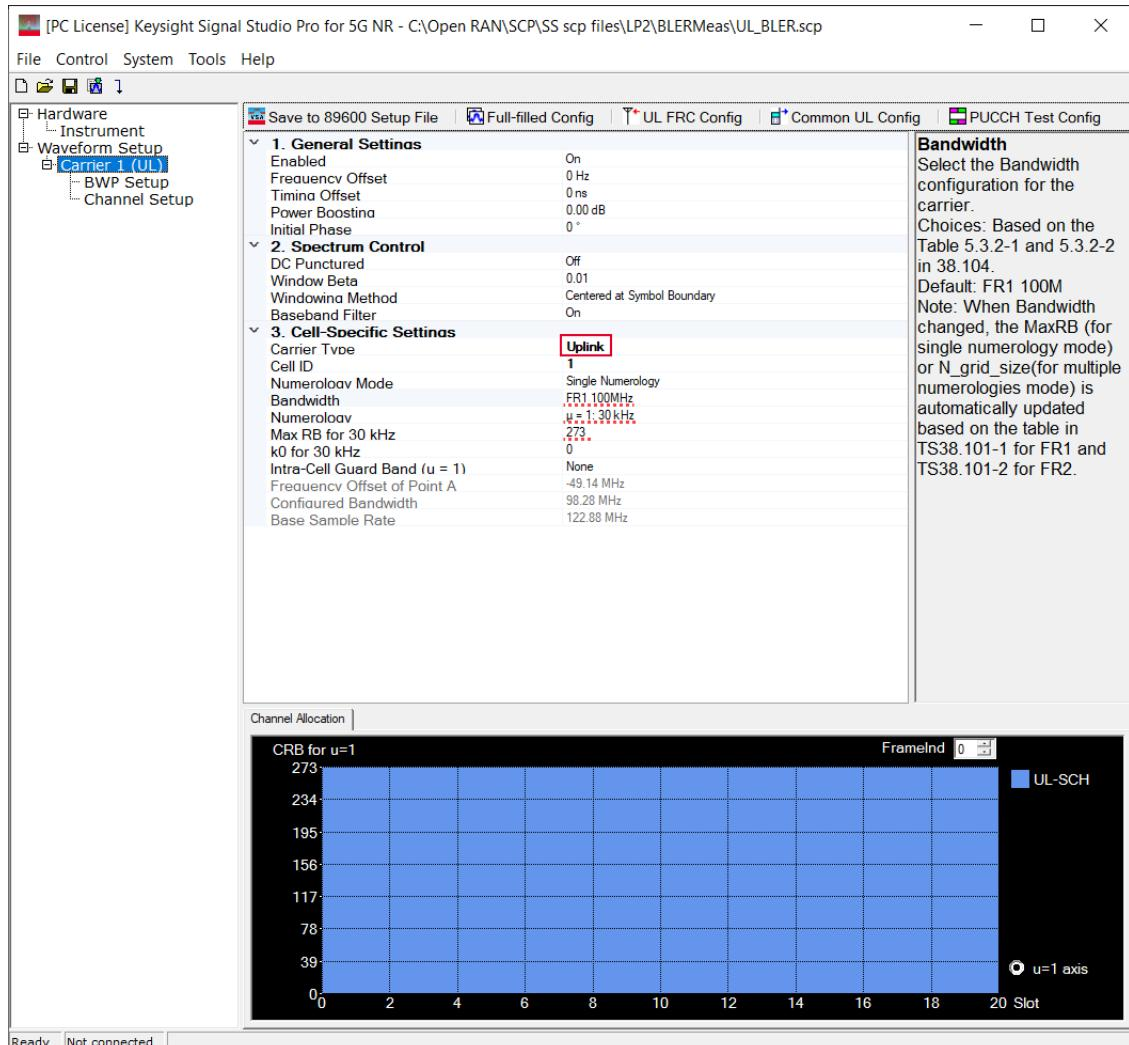

Figure 1 SCP file settings in Signal Studio
- For the Open RAN Studio software to gather data for BER / BLER measurements, you must configure the Carrier with the characteristics, which are shown in Figure 1.